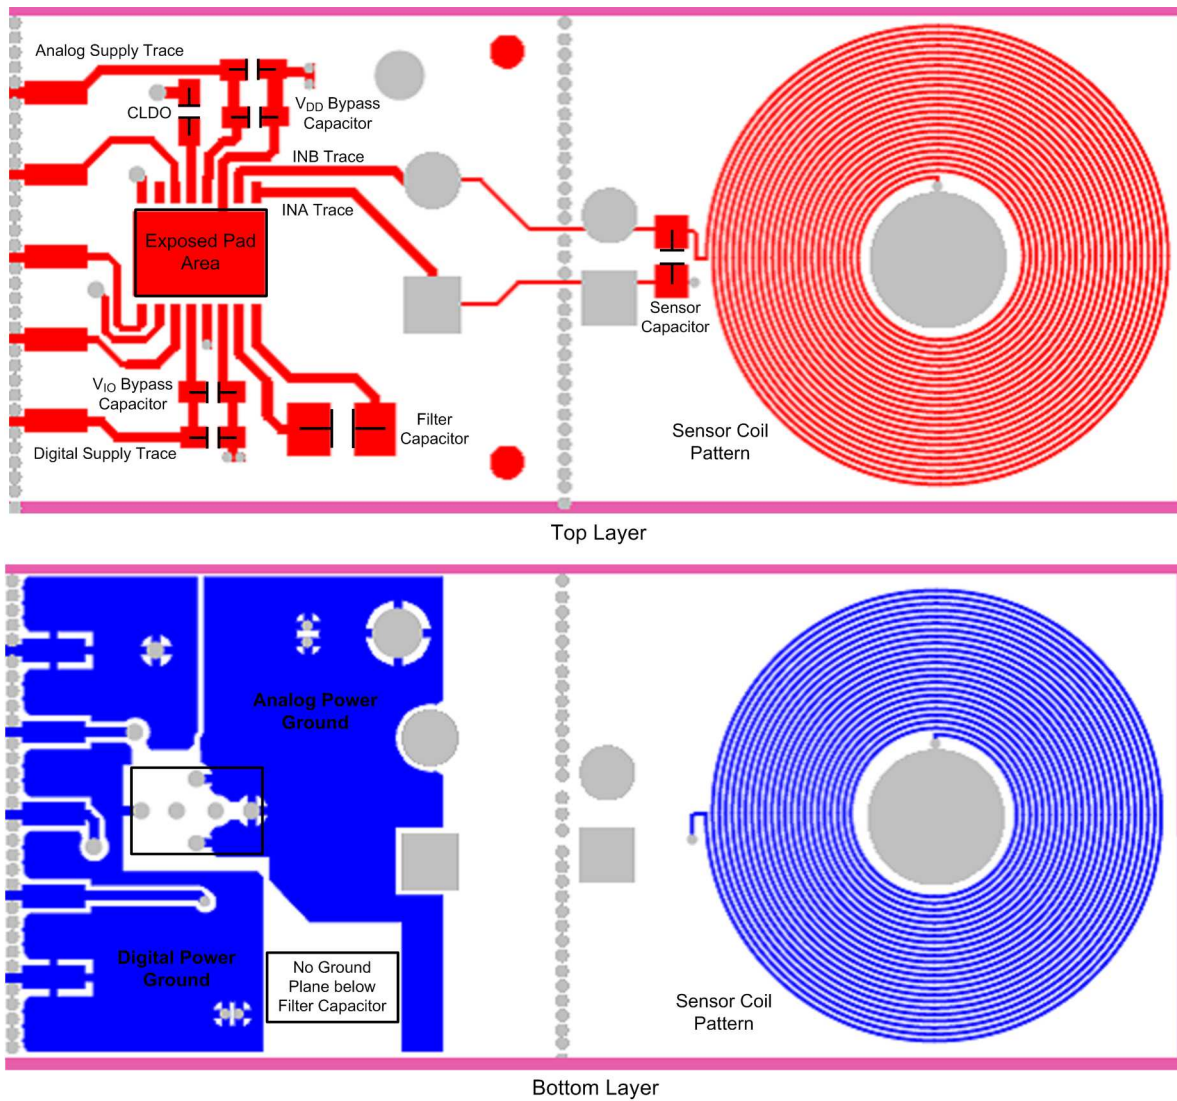

Figure 42. LDC10xx Board Layout
- Place the VDD, VIO, GND, and DGND pins as close to the device as possible. Take care to minimize the loop area formed by the bypass capacitor connection and the V_{DD} , VIO, GND, and DGND pins of the IC. See Figure 42 for a PCB layout example.
- Use two separate ground planes for the ground (GND) and digital ground (DGND) for a star connection as recommended. See Figure 42 for a PCB layout example.